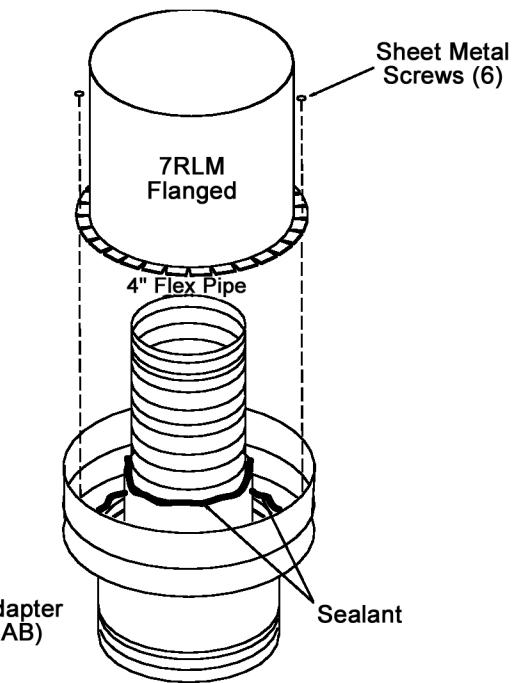

Figure 16
13. Fasten the flanged part of the 7RLM to the underside of the flat part (ledge) of the cap adapter with sheet metal screws. See Figure 16.